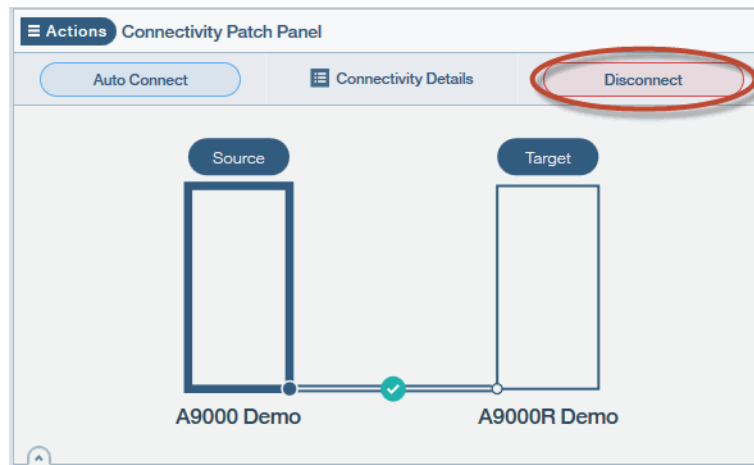

Figure 3-26 Target Connectivity Disconnect
1. Click **Disconnect** in the Connectivity Patch Panel window, as shown in Figure 3-26, and click **Apply** in the resulting confirmation window.